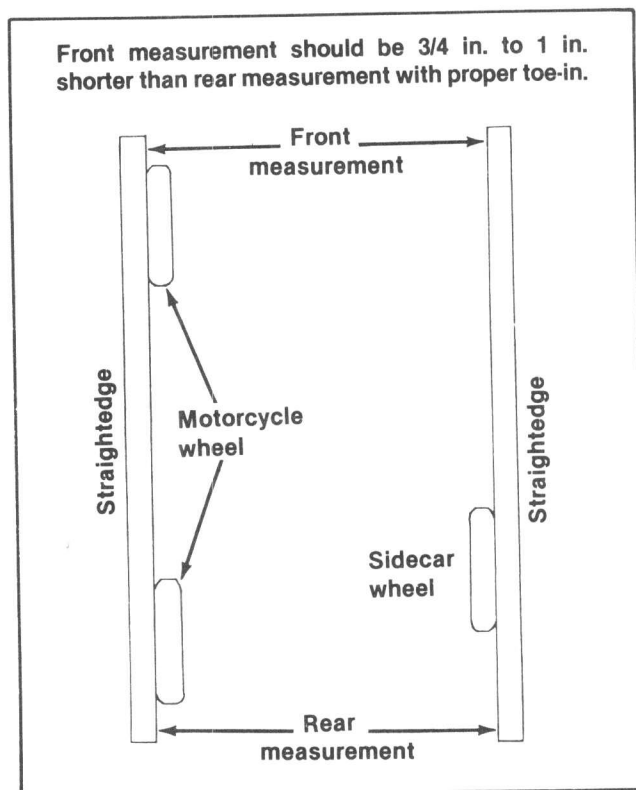

Figure 6-10. Toe-in Adjustment
3. See Figure 6-10. The rear connection, when adjusted properly, should provide 3/4 to 1 inch toe-in at front of motorcycle. To achieve proper toe-in, remove 3/4 in. diameter bolt, lockwasher and nut from rear clevis and connector bearing, then turn connector bearing either in or out. Do not expose more than 3/8 in. of threads when turning connector bearing out. (Measured from face of locknut after locknut is tightened.) If additional adjustment is required, the front connector can be turned in.